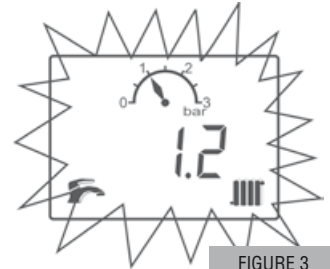

FIGURE 3
- 5.2 Press the reset button "K4" twice. The boiler will go onto standby. See Figure 3. This is the winter mode.
1. Standby - no demand for heat. Figure 3.